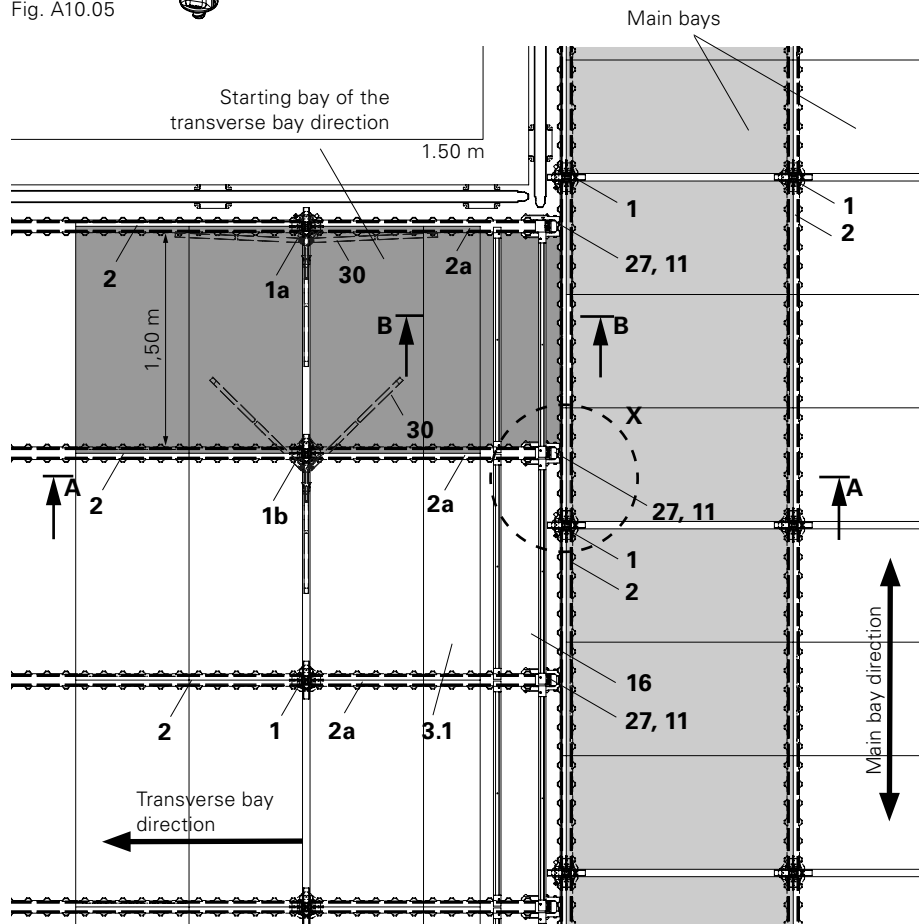

Fig. A10.06
(Fig. A10.06 + A10.06a)
3. Mount the second Drophead SDFK at a distance of 1.50 m. (Fig. A10.06)
4. Position one slab prop with Drophead SFK (1a) in the direction of the transverse bay. (Fig. A10.06)
5. Position second slab prop with Drophead SFK (1b) and secure slab props with tripods (30). (Fig. A10.06)
6. Mount Main Beam SLT 150 / 225 (2a) in the Dropheads. (Fig. A10.06, A10.08, A10.08a)
- Assemble additional transverse bays in the same way as the first transverse bay along the Main Beam SLT 225. (Fig. A10.06)
(Fig. A10.06, A10.06a, A10.08a)